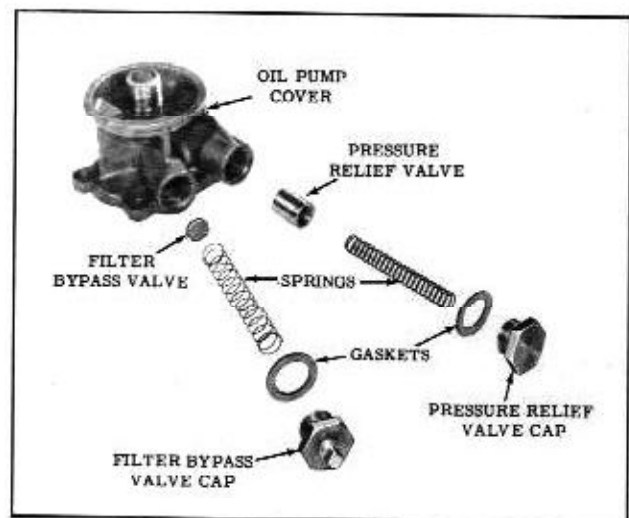

Fig. 8-36 Oil Pump Assembly
1. Remove oil filter by pass valve cap. (Cap with pressure switch.) (Fig. 8.36)